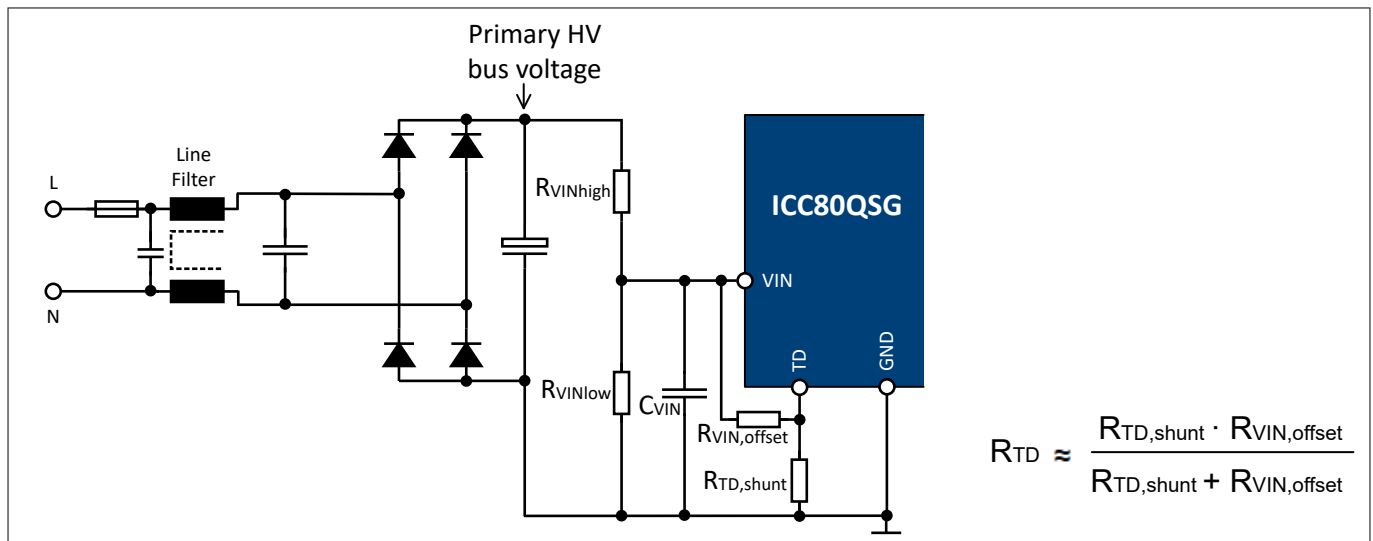
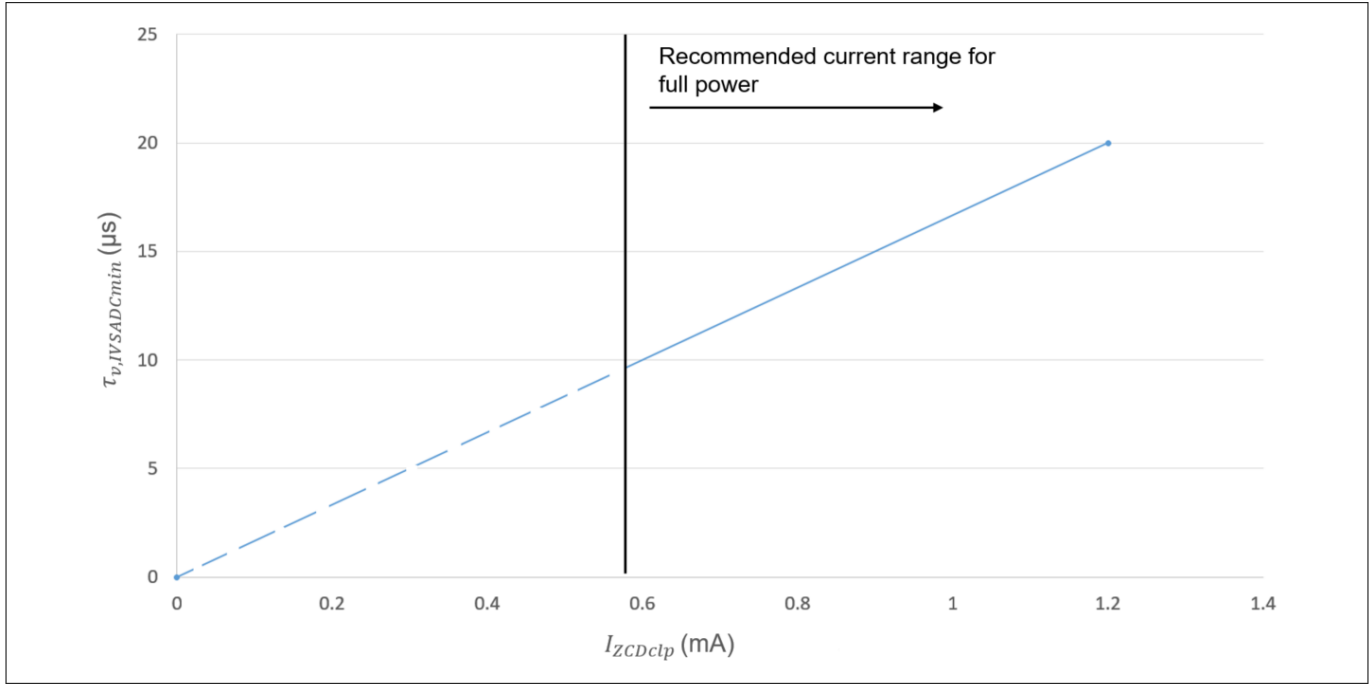
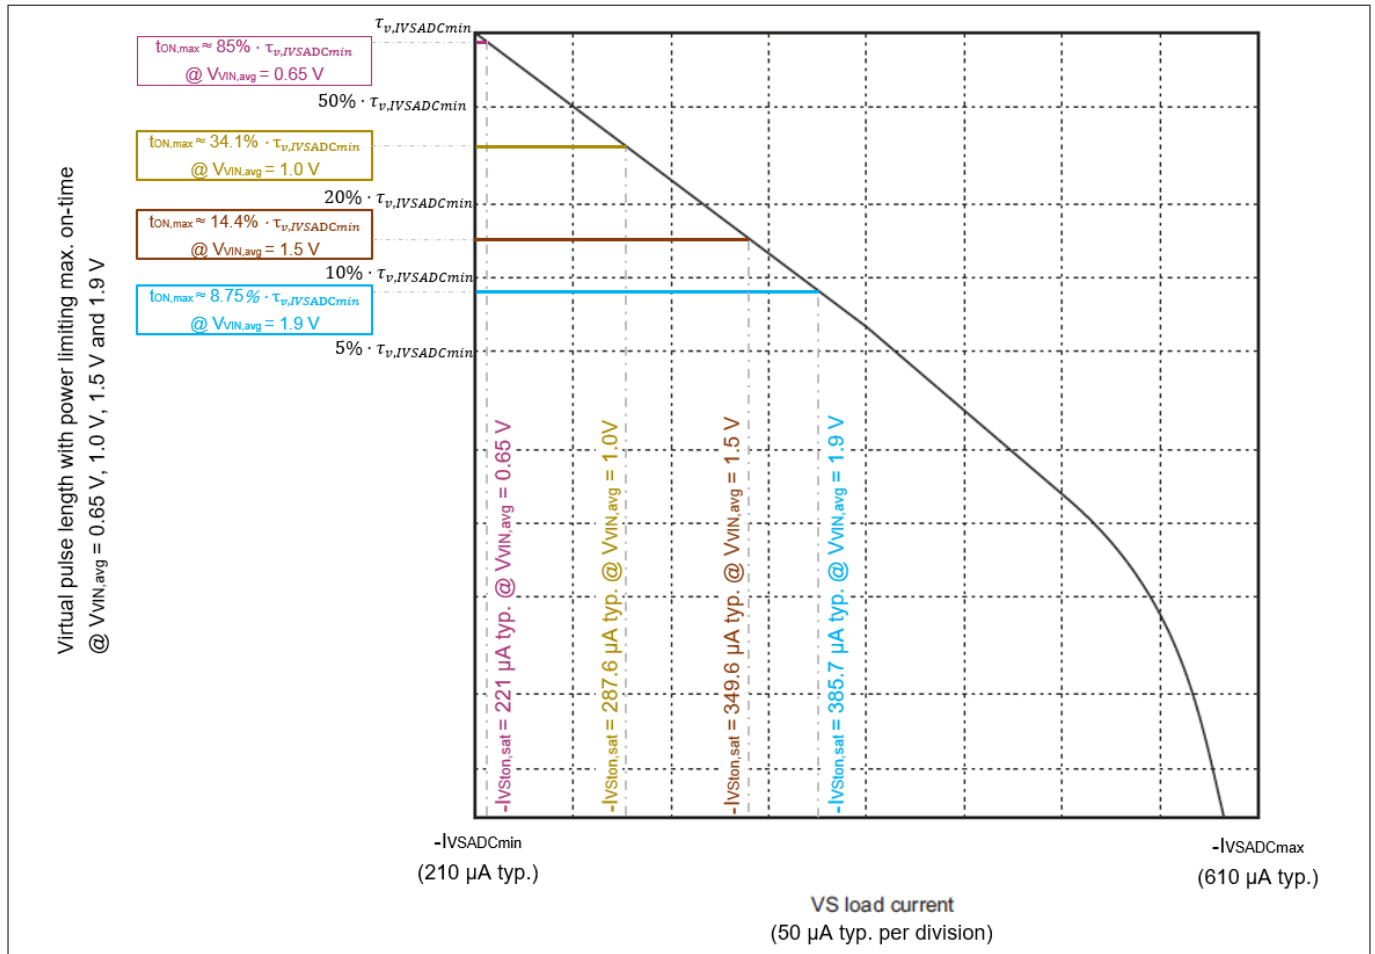

Figure 5 V_{IN} pin circuit
Figure 12 Virtual pulse length at $I_{VSADCmin}$, $\tau_{v,IVSADCmin}$ versus ZCD peak to peak settled clamping current, I_{ZCDclp}
Figure 13 Virtual pulse length mapping with power limiting maximum on-time effect
At higher power transfer, the primary bus voltage ripple is higher, and $V_{VIN,avg}$ becomes lower. As a result, a relatively higher AC input brownout protection level can be triggered at higher power transfer, to better protect the primary components from overheating and saturation in case of input under-voltage condition occurs. Apart from that, the hysteresis between AC input brownin and brownout level can be added externally with $R_{VIN,offset}$, as shown in Figure 5. It works by creating an offset voltage on the V_{IN} pin when the TD pin internal pull-up is enabled in RUN state.
When the $R_{VIN,offset}$ is connected between TD pin and V_{IN} pin, R_{TD} can be approximated based on the equation shown in Figure 5. The R_{TD} detected in the pre-start-up phase must be designed to be at least 27 k Ω when TD pin is internally pulled up by $R_{TD,RUN}$, and not more than 68 k Ω when TD pin is internally pulled up by $R_{TD,flyback}$, to activate the VS pin load current sensing for output regulation and stay within the TD configuration limit.
Based on Equation 4, the equation for R_{TD} approximation in Figure 5 can be derived, when a resistor $R_{VIN, offset}$ is added between VIN pin and TD pin to configure the brownin and brownout hysteresis.
1. Based on $I_{ZCDclp} = 1.2$ mA, obtain $\tau_{v,IVSADcmin} = 20$ μ s from Figure 12.
For $t_{ON,max}$ estimation, it is important to note that $\tau_{v,IVSADCmin}$ changes with different $V_{VIN,avg}$ level, when the input voltage detection circuit in Figure 5 is applied. This is because $\tau_{v,IVSADCmin}$ is scaled depending on I_{ZCDclp} in Figure 12, while I_{ZCDclp} is dependent on the input voltage, as explained in ZCD pin signal sensing.
Figure 13 shows the virtual pulse length with the power limiting maximum on-time effect, when $V_{VIN,avg}$ is 0.65 V, 1.0 V, 1.5 V and 1.9 V, respectively.
When $V_{VIN,avg}$ is at the brownin level ($V_{BI} = 0.647\text{ V typ.}$), the power limitation is enabled with $t_{ON,max} = \text{approx. } 85\%$ of $\tau_{v,IVSADCmin}$, as shown in Figure 13. For example, if the desired $t_{ON,max}$ at brownin level is $17\text{ }\mu\text{s typ.}$, it is necessary to have $\tau_{v,IVSADCmin} = 17\text{ }\mu\text{s} / 85\% = 20\text{ }\mu\text{s}$. And, according to Figure 12, $\tau_{v,IVSADCmin} = 20\text{ }\mu\text{s}$ is obtained when $I_{ZCDclp} = 1.2\text{ mA}$ is applied. As a result, to achieve $t_{ON,max} = 17\text{ }\mu\text{s typ.}$ at brownin level, R_{ZCD} should be dimensioned to produce $I_{ZCDclp} = 1.2\text{ mA typ.}$ at brownin level.